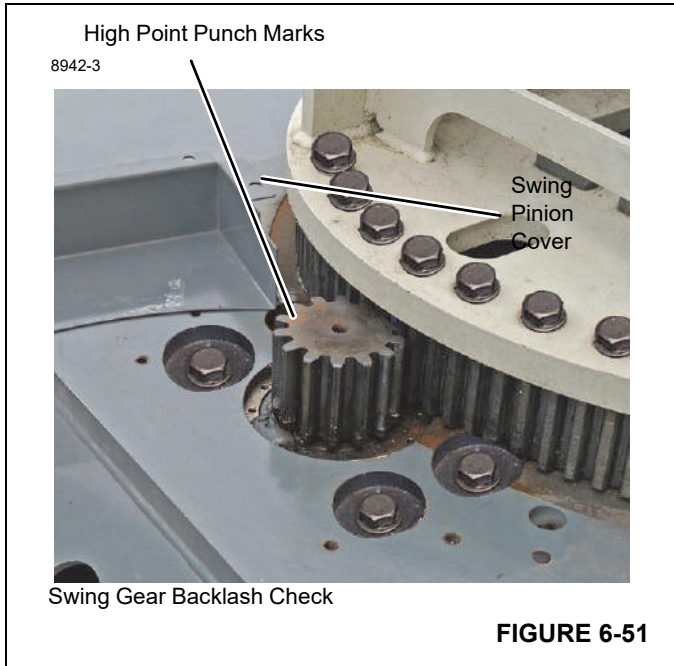

FIGURE 6-51
1. Remove the cover to expose the swing pinion and ring gear (Figure 6-51).
high point is punch-marked on the mast plate (Figure 6-51).